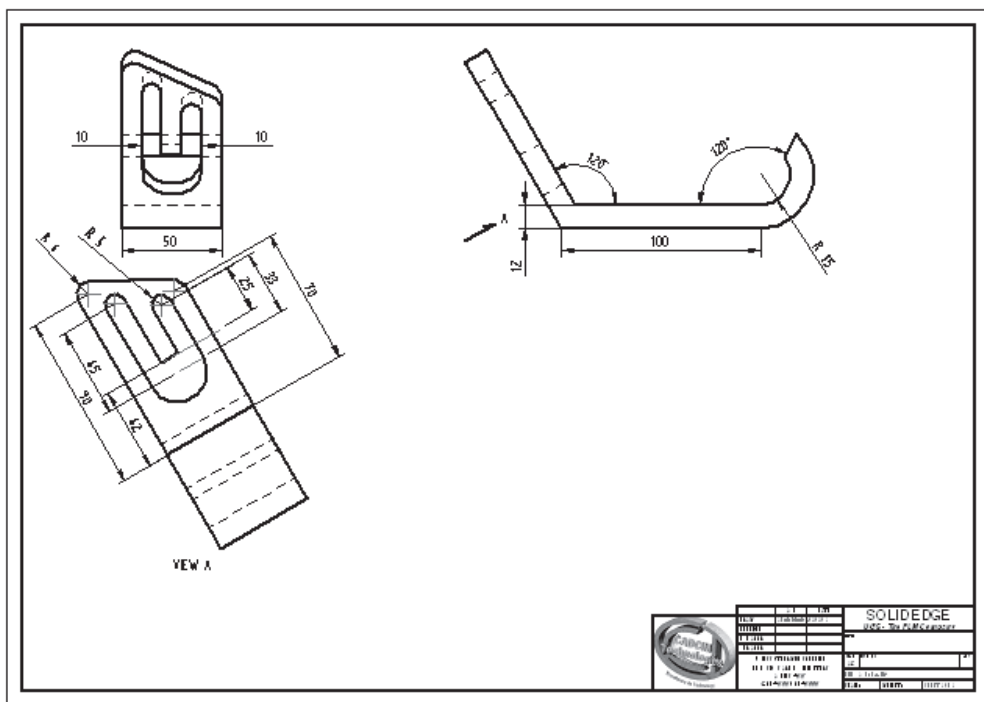

Figure 11-43 Drawing sheet after dimensioning the views
- Create the remaining dimensions that are not generated, refer to Figure 11-43.
The drawing sheet, after dimensioning the drawing views, is shown in Figure 11-43.